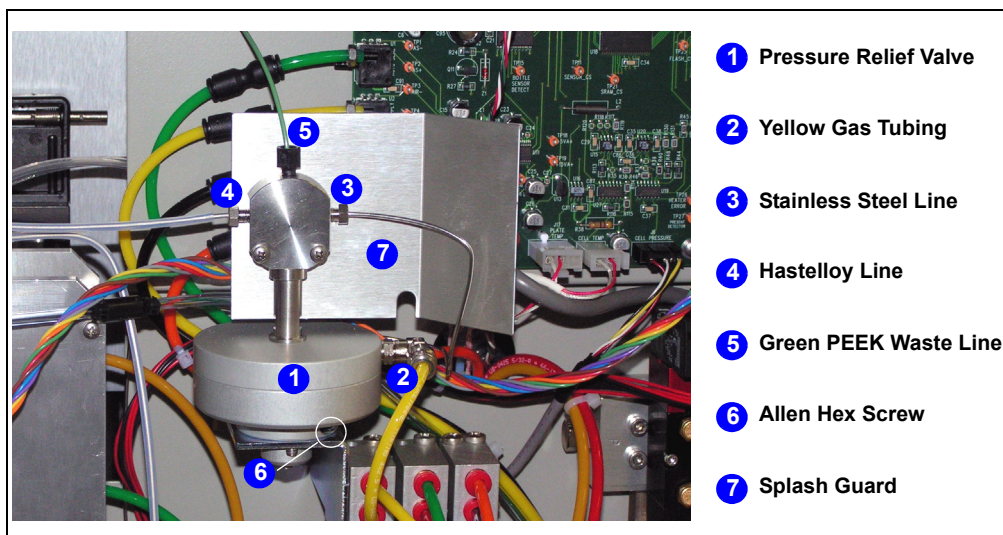

Figure 5-18. Connections to the Pressure Relief Valve
2. The pressure relief valve is installed in the upper left corner of the component panel (see Figure 5-18, ①). Disconnect the yellow gas tubing (②) from the elbow press fitting on the valve.